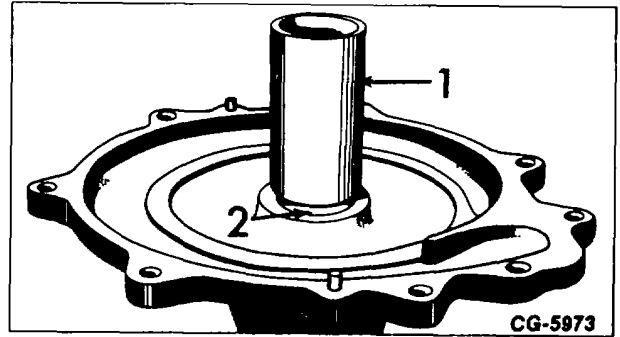

Figure 11. - Installing Seal into Bearing Housing
6. Install coolant seal in bearing housing (Fig. 11).